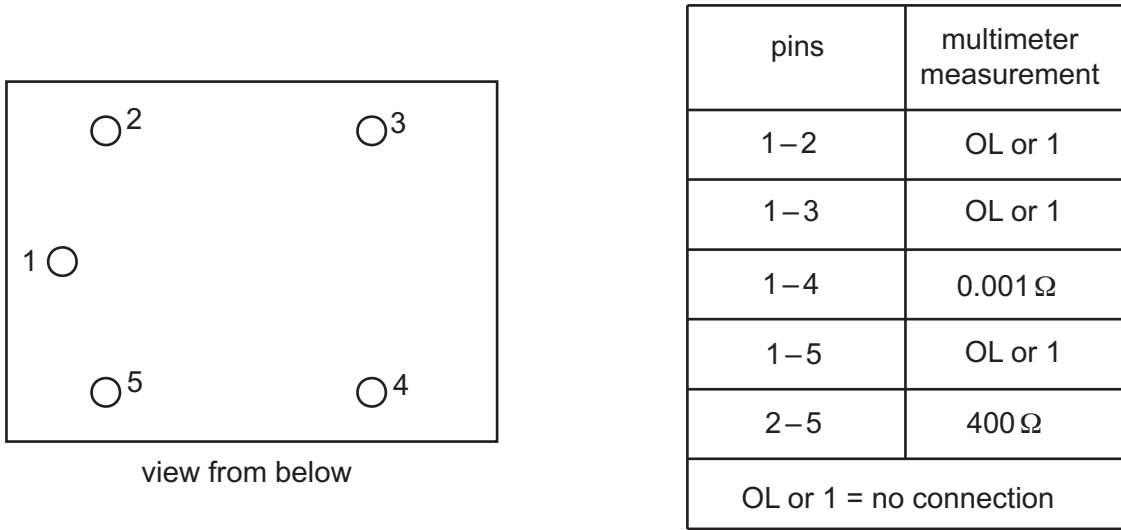

Fig. 11.4
- (v) Fig. 11.4 shows the relay outline and a table of test results. The tests were carried out using a multimeter on a resistor setting, to identify each connection on the relay. When a 12V supply is connected across pins 2 and 5 there is 0.001Ω resistance between pins 1 and 3.